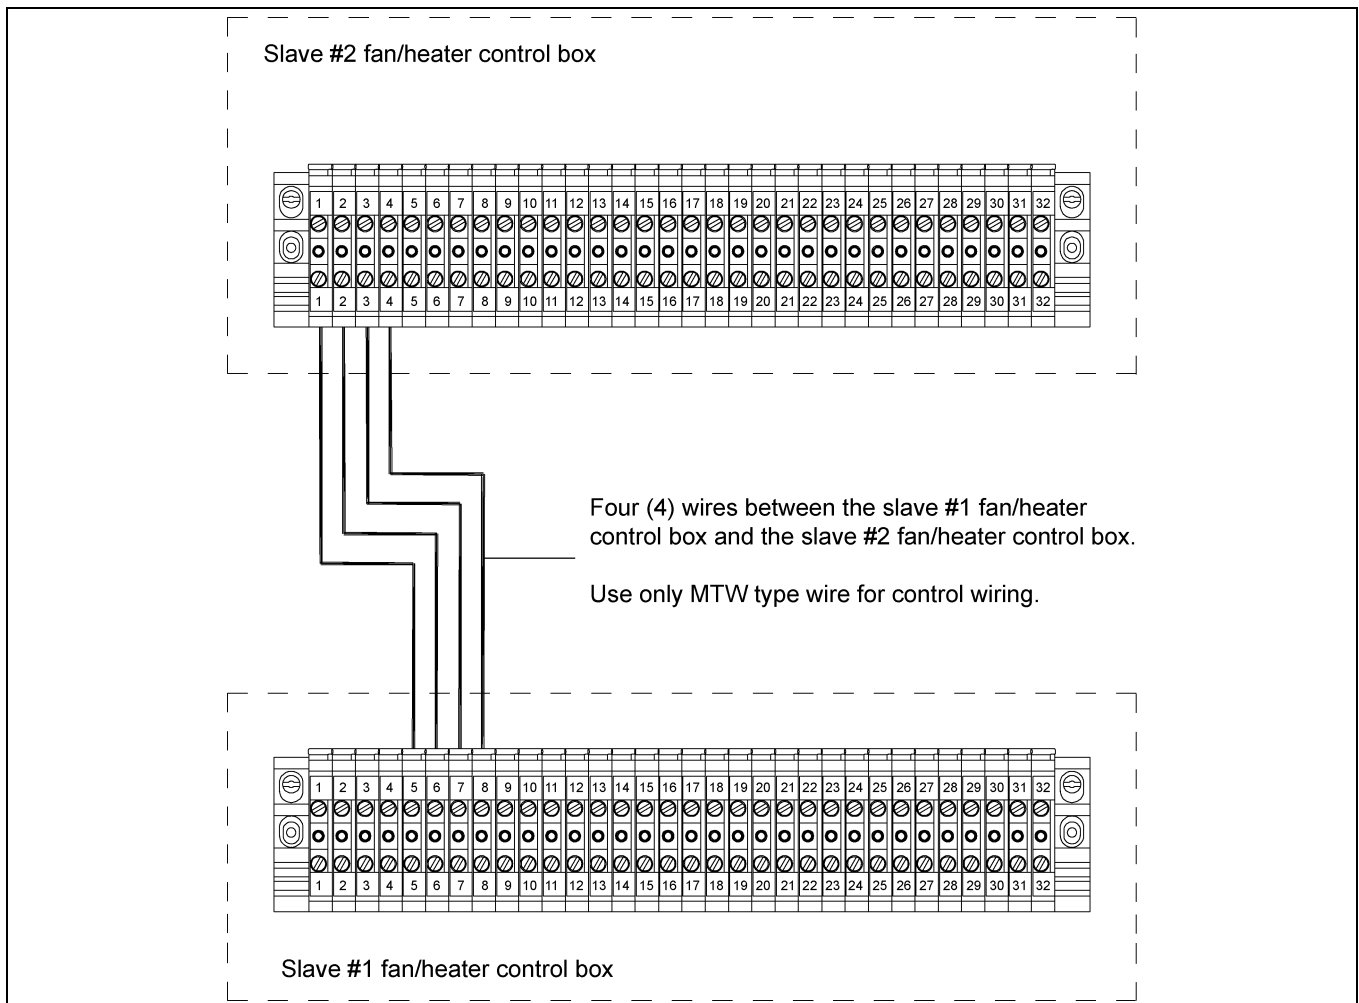

Figure 4M Wiring for a second slave fan/heater unit to another slave fan/heater unit.
1. Run four (4) 16 gauge MTW type wires from the first slave fan/heater unit to the second slave fan/heater unit.
2. Connect the wires as shown in Figure 4M.